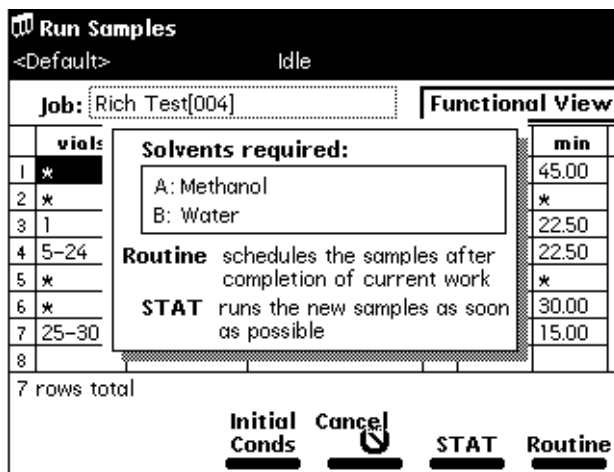

Figure 5-5 Run Samples Screen with Solvents Required Dialog Box
4. Press the **Start** screen key. The Run Samples screen appears with a list of the solvents required for the run (see Figure 5-5). Check that you have prepared the Separations Module with the indicated solvent(s).
5. Press the **Start** screen key. A screen appears with a list of the solvents required for the run, as shown in Figure 5-5. Check that you have prepared the Separations Module with the indicated solvent(s).